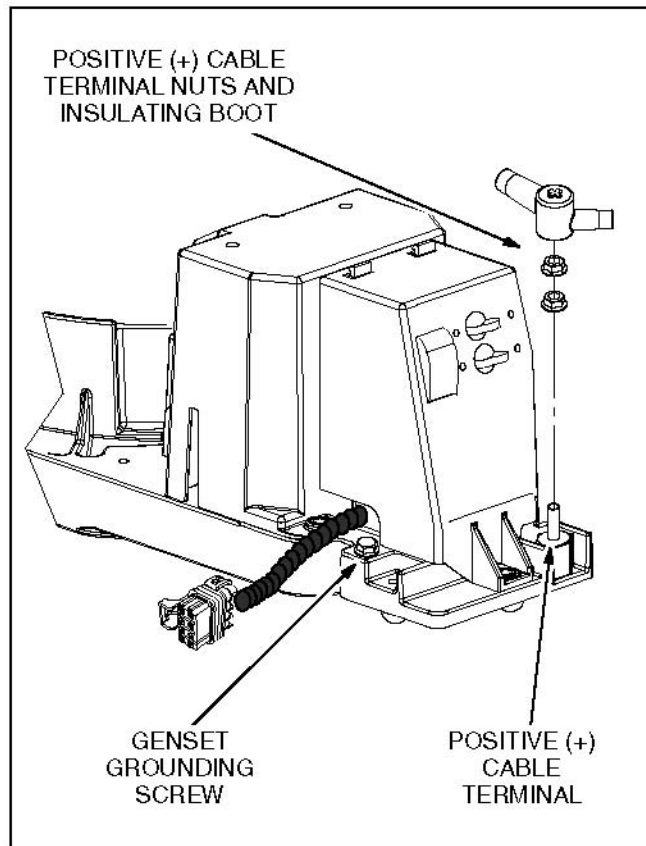
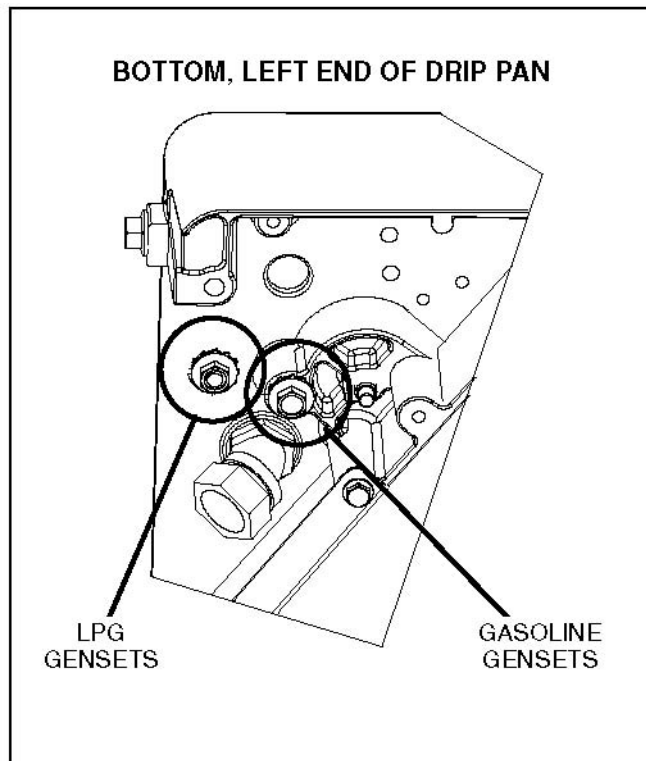

FIGURE 21. POSITIVE (+) BATTERY CABLE TERMINAL AND GENERATOR SET GROUNDING SCREW
FIGURE 22. NEGATIVE (-) BATTERY CABLE TERMINAL
Connect the bond strap (Figure 17) between the alternator/engine base and drip pan to carry control and cranking currents to battery negative (-). The negative battery cable terminal is on the bottom side of the drip pan (Figure 22).
If battery cables need to be replaced, size them according to Table 3. The current path between the generator set and the negative (-) battery terminal must be able to carry full cranking current without causing excessive voltage drop. The path may be a full-length cable (Figure 19) or the vehicle frame (Figure 20). Note also that a generator set grounding conductor, if provided, was probably required by code and must be reconnected to the grounding terminal (Figure 21).
2. Connect them to the generator set as shown in Figure 21 and Figure 22.